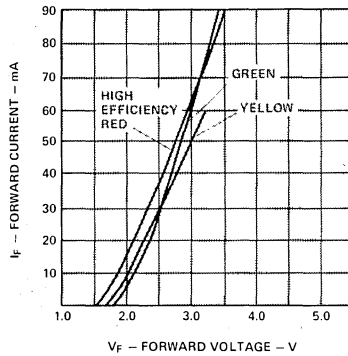

Figure 4. Forward Current vs. Forward Voltage
- Derate from $T_A = 50^\circ\text{C}$ at 0.086 V/°C, see Figure 4.